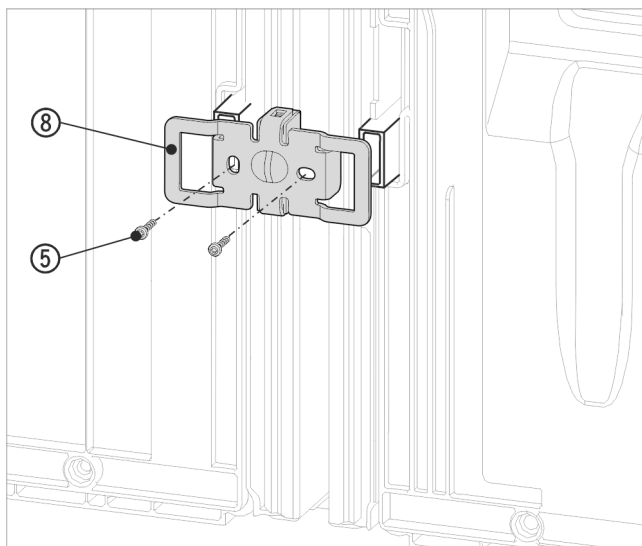

Fig. 19 Example illustration
- Slide the bracket Fig. 19 (8) on once more with the slots over the retainer for the wall spacers.
- Tighten firmly with 2 screws Fig. 19 (5).